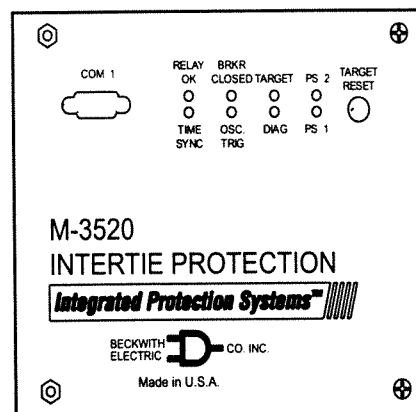

Figure 6-1 Status LED Panel
3. Repeat step 2 for each of the 5 remaining LED's shown in Figure 6-1. The PS1 and PS2 LED's are not subject to this test.